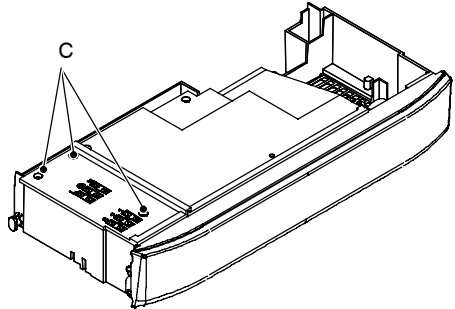

Fig. 8.2
- 8 Loosen the screws C and remove the service panel (Fig. 8.2).